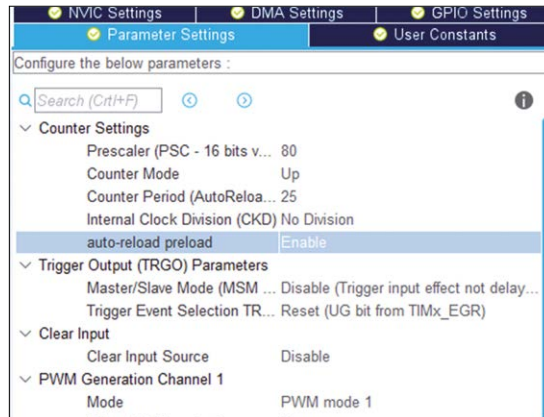

Figure 10.13: Parameter settings.
- We now have to set the timer parameters for the required PWM specifications. The required PWM period is 0.025 ms (25  $\mu$ s, 40 kHz) and the required pulsewidth is 0.0125 ms (12.5  $\mu$ s, i.e. 50% duty cycle). The timer clock frequency is set to 80 MHz (period = 0.0125  $\mu$ s). If we set the prescaler to 80, then  $80 \times 0.0125 = 1 \mu$ s. Therefore, for a period of 25  $\mu$ s, the counter should be set to  $25 / 1 = 25$ . Enable **auto-reload preload**. Leave the other settings as they are (see Figure 10.13). The pulsewidth can be selected later when the code is generated.